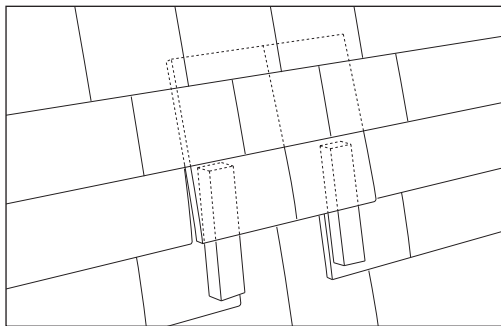

Fig 30 – Block tiles with battens
- Remove damaged tile with neighbouring tiles blocked up with 25 x 38mm batten. Care should be taken not to break adjacent tiles (Fig 30).